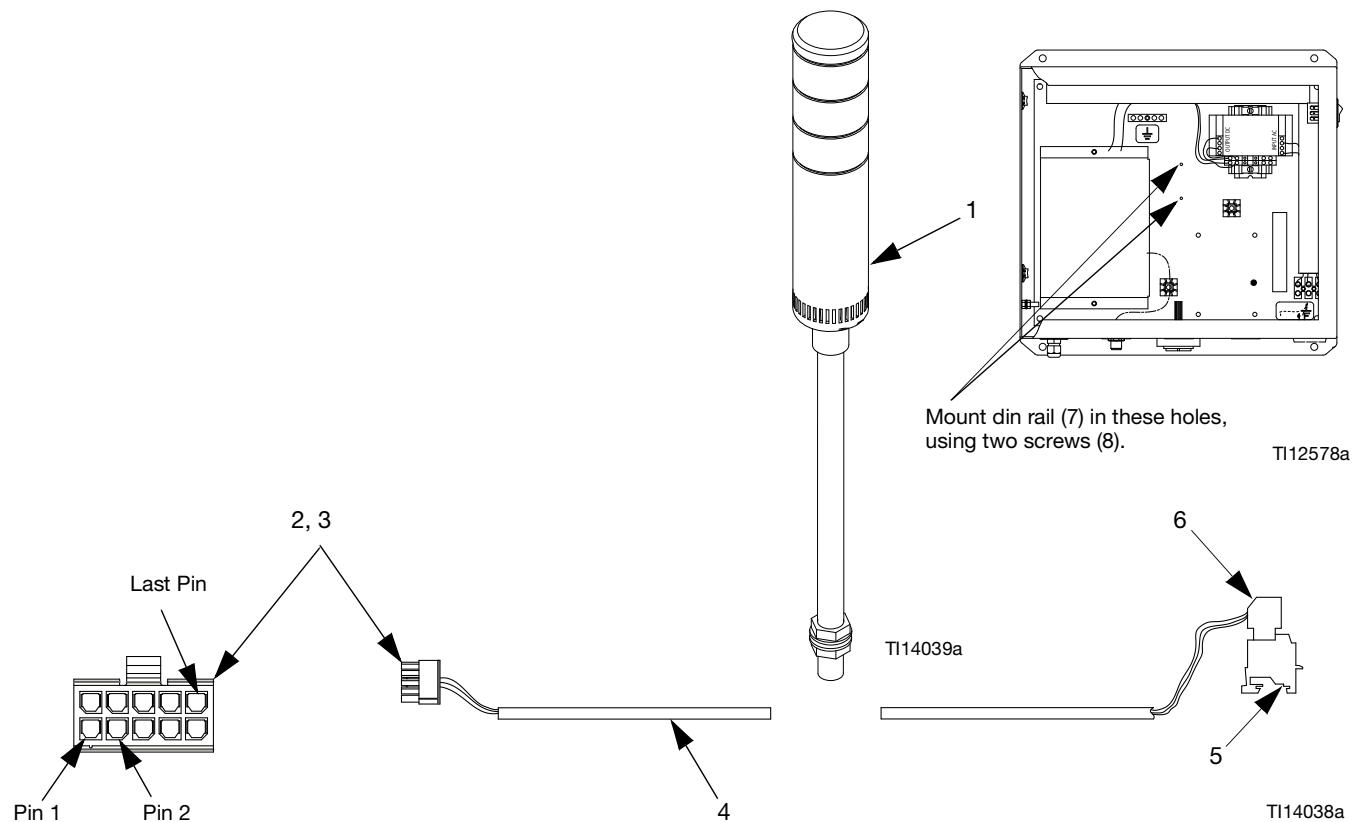

FIG. 4: 15W034 Beacon Kit Parts
- 3. Install the din rail (7) with two screws (8). Install the header (5) on the din rail and connect the cable (4) to J5 on the EasyKey display board. See FIG. 4.